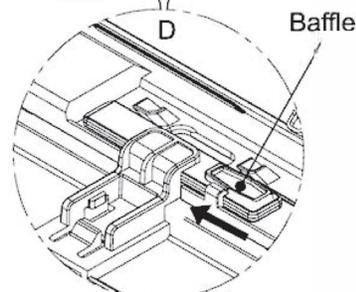

Fig.C.7.5
- 4) In the C position, open the front shell as shown in Fig. C.7.4. Then in the D position, push the baffles to prevent the front shell from falling as shown in Fig. C.7.5.